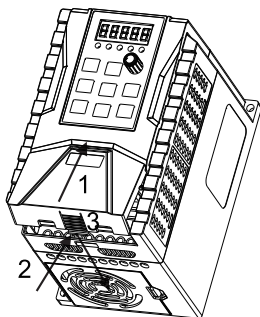

Figure3-7 Terminal cover's installation
B. Terminal cover's installation, showing as Figure3-7, install the upper buckle into the corresponding position by direction 1, then press the side buckle by the direction 2, at last press by the direction 3 until hear click sound at the juncture.